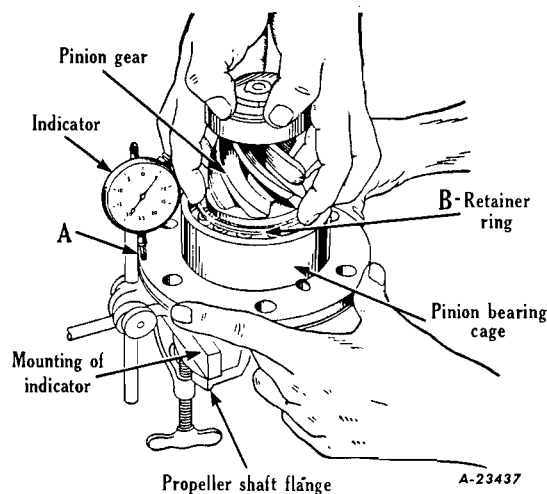

Fig. 16
Fig. 16 shows method of attaching dial indicator when adjusting bearing pre-load. This method can be used when press equipment is not available.
- (1) Place assembly in vise in position shown.
- (2) Mount indicator on propeller shaft flange with indicator finger resting on upper face of cage. (See A, Fig. 16.)
- (3) With the tips of the fingers grasp the bearing retainer and work bearings up against the back face of pinion. (See B, Fig. 16.)
- (4) With the bearings held firmly against the pinion, move the cage up and down, observing the indicator reading. It is impossible to accurately determine the end play unless the bearing is worked loose and up against the pinion. Assemblies having as much as .005" end play cannot be moved enough to show on the indicator until the bearing has been worked up and away from the cup.